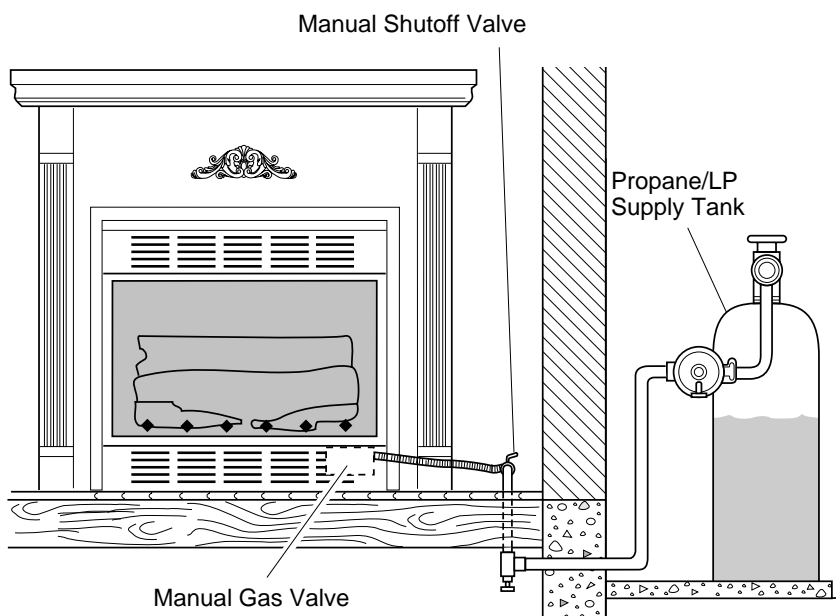

Figure 21 - Checking Gas Joints
3. Check all joints from propane/LP supply to manual shutoff valve (see Figure 21). Apply mixture of liquid soap and water to gas joints. Bubbles forming show a leak.
4. Check all joints from manual shutoff valve to thermostat gas valve (see Figure 21). Apply mixture of liquid soap and water to gas joints. Bubbles forming show a leak.